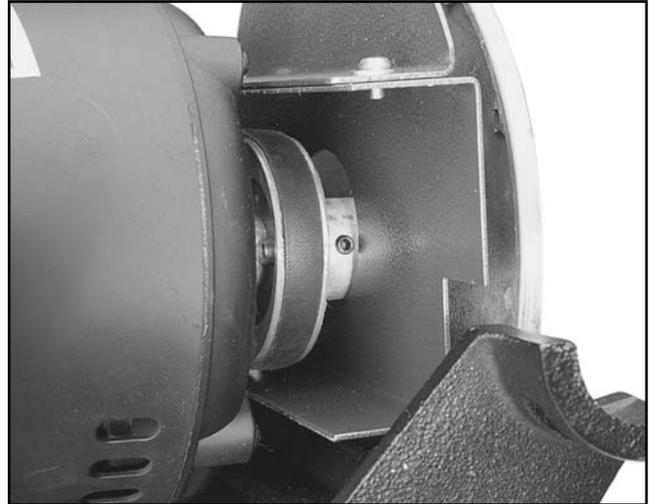

Figure 11. 8" disc attached to motor.
11. Slide the 8" aluminum disc onto the motor shaft. Lightly tap into place with a rubber mallet if necessary. Align the disc and motor shaft keyways and insert the $\frac{3}{16}$ " square key. Secure the disc with a $\frac{1}{4}$ " - 20 x $\frac{3}{8}$ " setscrew. **See Figure 11.**